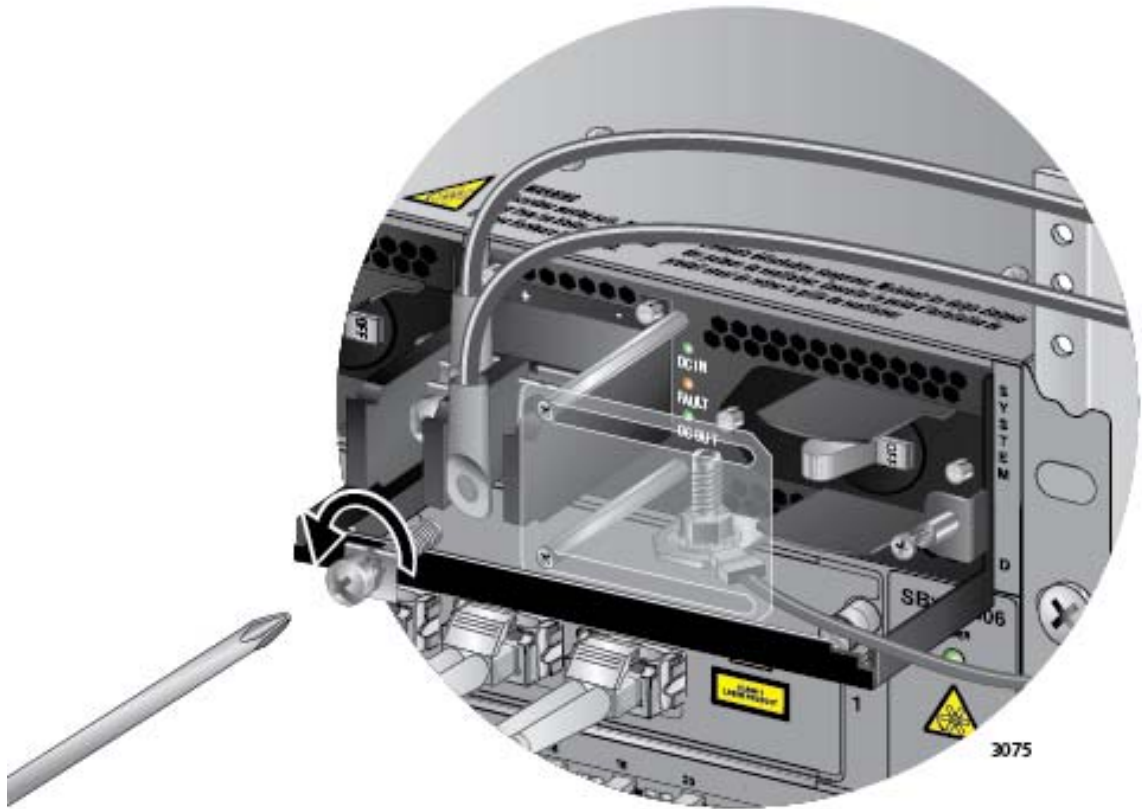

Figure 173. Removing the Negative Lead Wire
5. Use a #3 screwdriver to remove the negative (-) lead wire from the terminal block. The negative lead wire is on the right. Refer to Figure 173 on page 289.